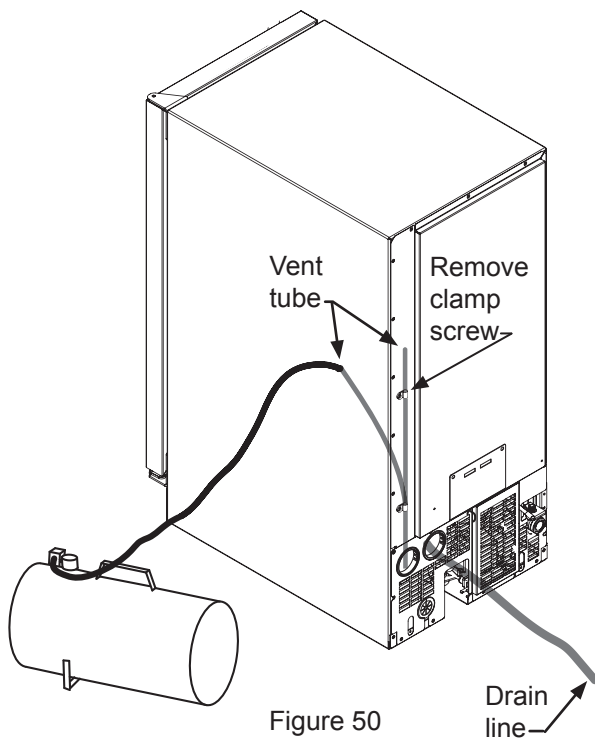

Figure 50
15. Apply air pressure (approximately 10 psi) to the end of the vent tube which will purge the remainder of the water from the drain pump and the drain line. (See Figure 50).